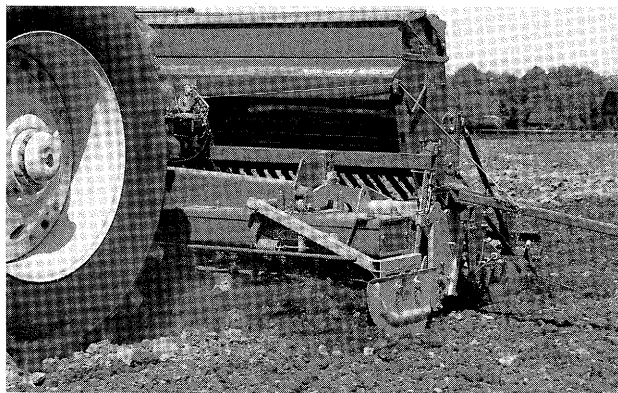
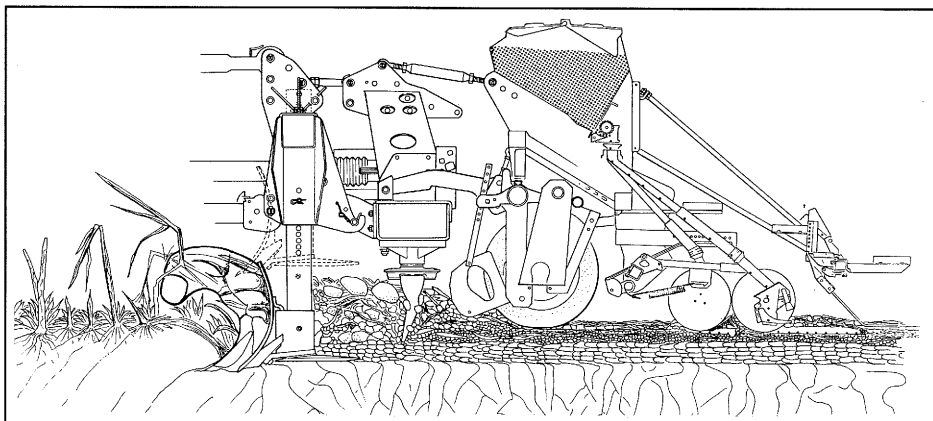

Fig.4
Fig.6
**AMAZONE-rotary cultivator with pack top seed drill with roll disc coulters** (Fig. 4 and 5) for operations on all soils (extreme high content of clay and stones) with or without soil preparation by heavy spring tine cultivator or plough, with or without organic matter on the surface. In Fig. 6 this tyre packer-till- and drill combination is illustrated with AMAZONE-deep loosener TL.